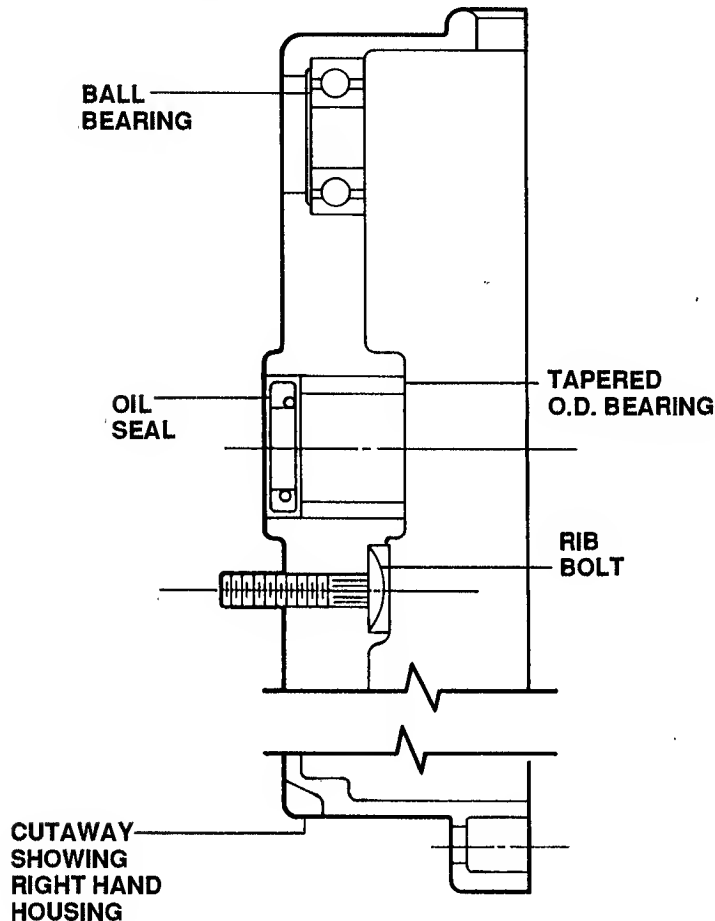

FIGURE 4.14
- (a) Drive tapered O.D. axle bearings out of housings from the INSIDE. See Figure 4.14.
- (e) Drive old rib bolts in right housing out toward the INSIDE, preferably using a plastic mallet. Refer to Figure 4.14.